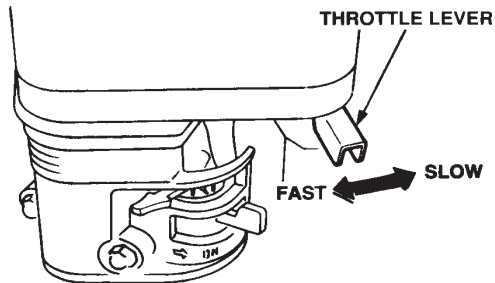

Figure 12. Throttle Lever (SLOW Position)
1. Place the **throttle lever** (Figure 12) in **SLOW** position, and listen for the engine speed to decrease.
1. Move the throttle lever quickly to the **SLOW** position (Figure 12).